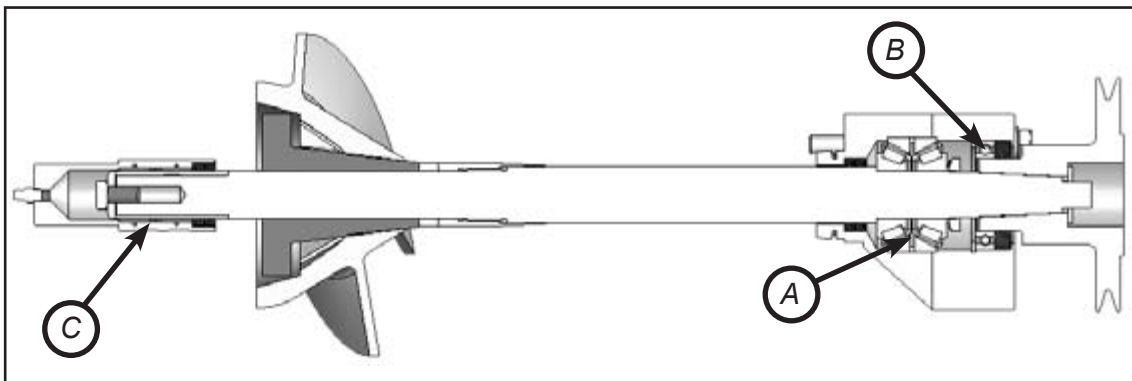

Figure 3.2-1
The jet's bearing is very simple (figure 3.2-1). There are bearings at both ends of the direct shaft. The structure of the front bearing (A) is receptive to axial pressure. In addition, at the front end there is the supporting bearing (B) of the coupling flange and the auxiliary shaft.